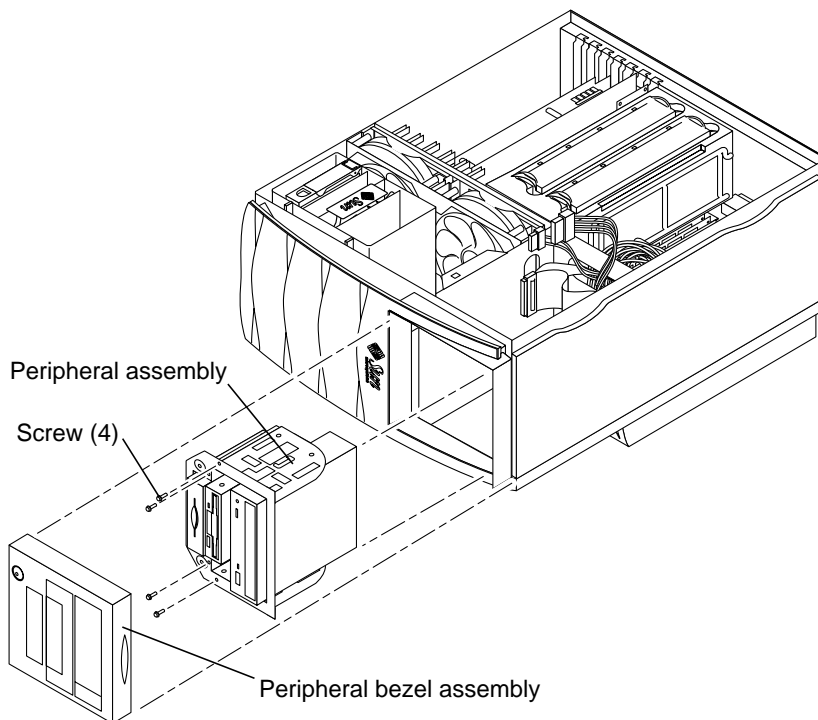

FIGURE 7-2 Removing and Replacing the Peripheral Assembly
2. Remove the peripheral bezel assembly by pressing down on the top of the bezel and pulling it straight out from the chassis (FIGURE 7-2).
1. **Position the peripheral assembly on a flat surface so that the diskette drive is flat (FIGURE 7-2).**
1. **Position the peripheral assembly in the chassis** (see FIGURE 7-2).